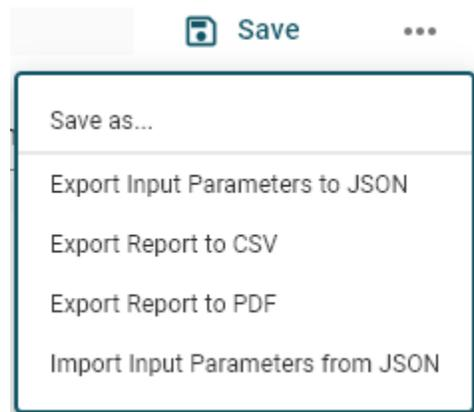

Figure 3-2. Import and Export Menu
3. **Import and Export Menu:** This menu includes options to externally save simulation information contained in the tool (Figure 3-2).